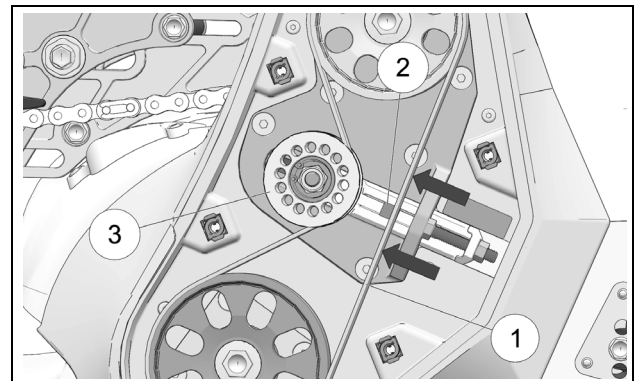

Figure 47
- With your thumbs, apply pressure to the belt (1), where the tension gauge (2) sits, toward the tensioner pulley (3). See Figure 47.